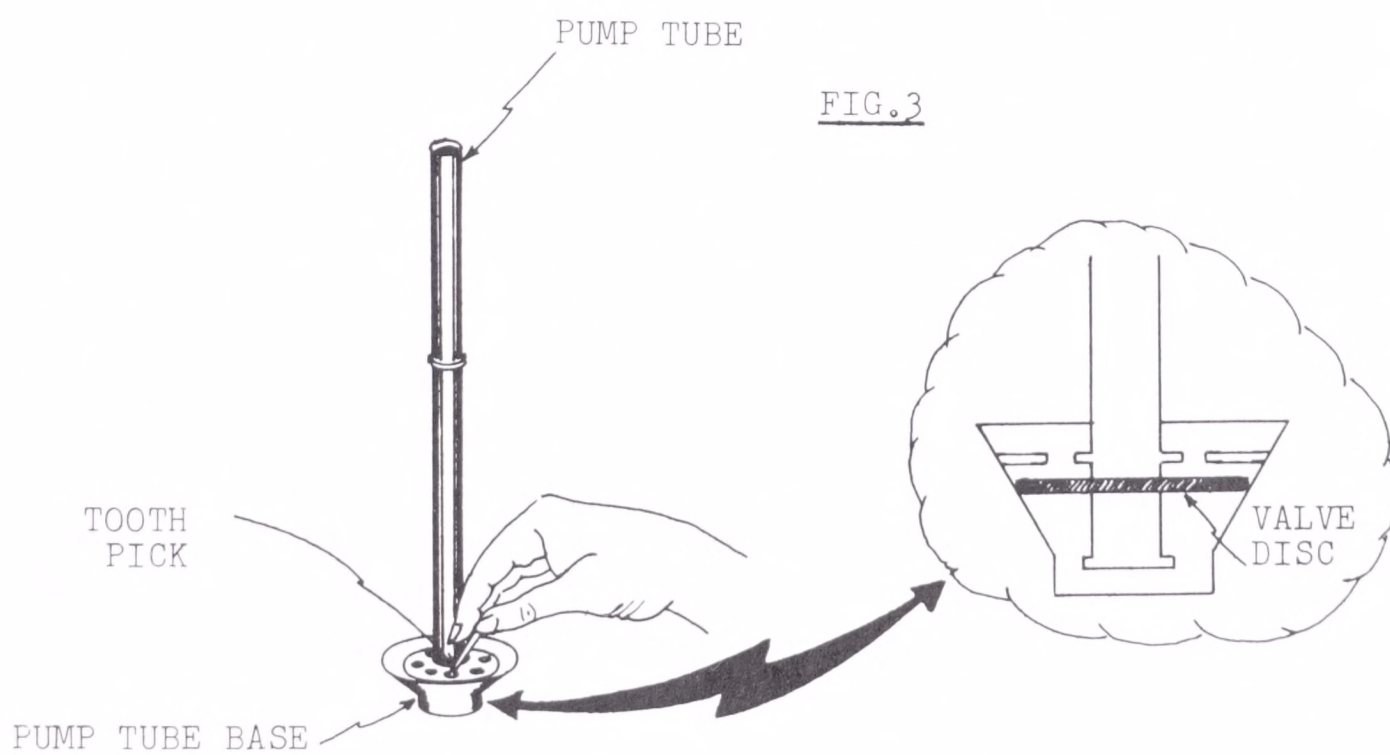

FIG. 3
5. If the valve disc does not clatter, poke it up and down with the tip of a toothpick. If the valve disc does not move freely, examine the pump tube base carefully for coffee residue or a particle of ground coffee that may be jamming the valve disc. Pick clean with the tip of a toothpick the area round the valve disc until the valve moves freely. (*Figure 3*)